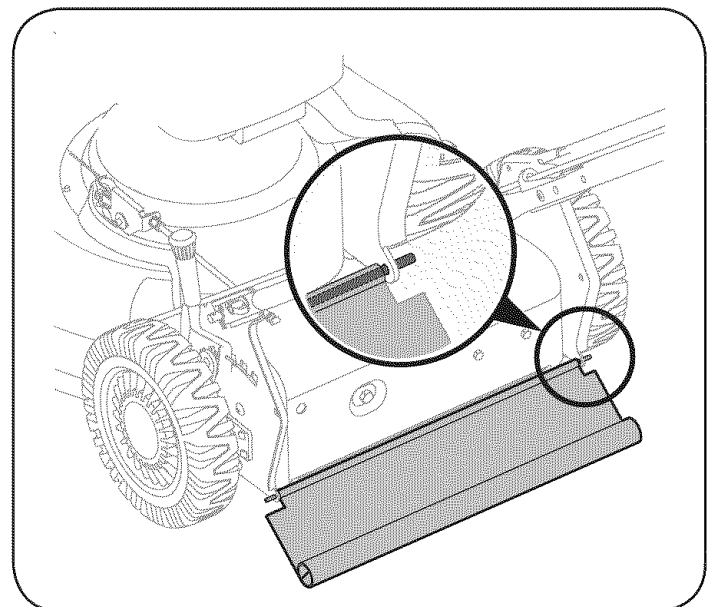

Figure 17
1. Cut off the flat end of the wire rod which secures it to the deck. See Figure 17.